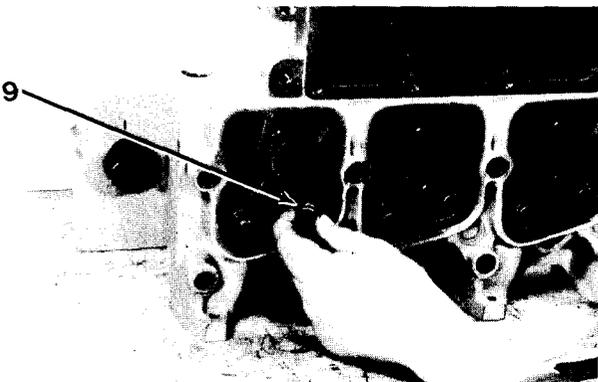

Figure 6-6
4. Remove valve seal (9, Figure 6-6).